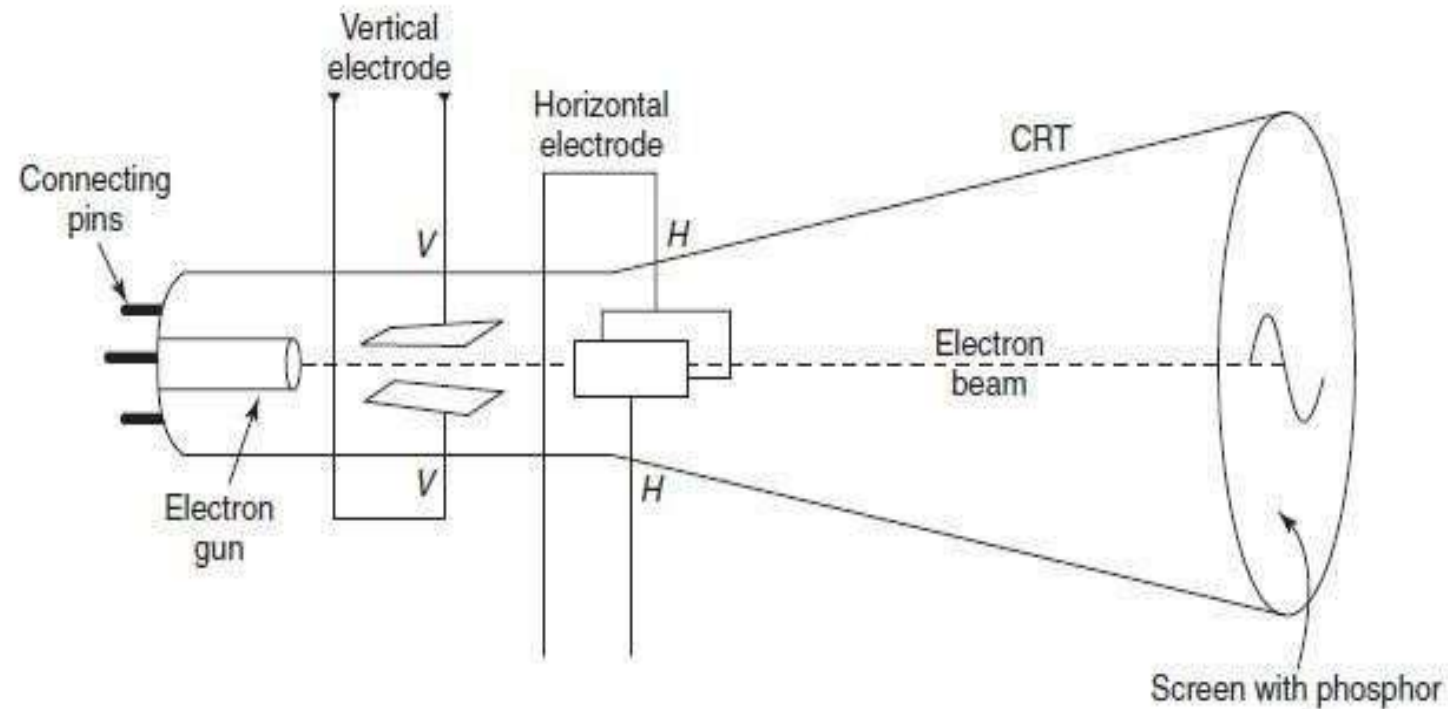

Figure 14-2 Components of a cathode-ray oscilloscope
- The **electron gun or electron emitter, the deflecting system** and **the fluorescent screen** are the three major components of a general purpose CRT. A detailed diagram of the cathode-ray oscilloscope is given in Fig. 14-2.